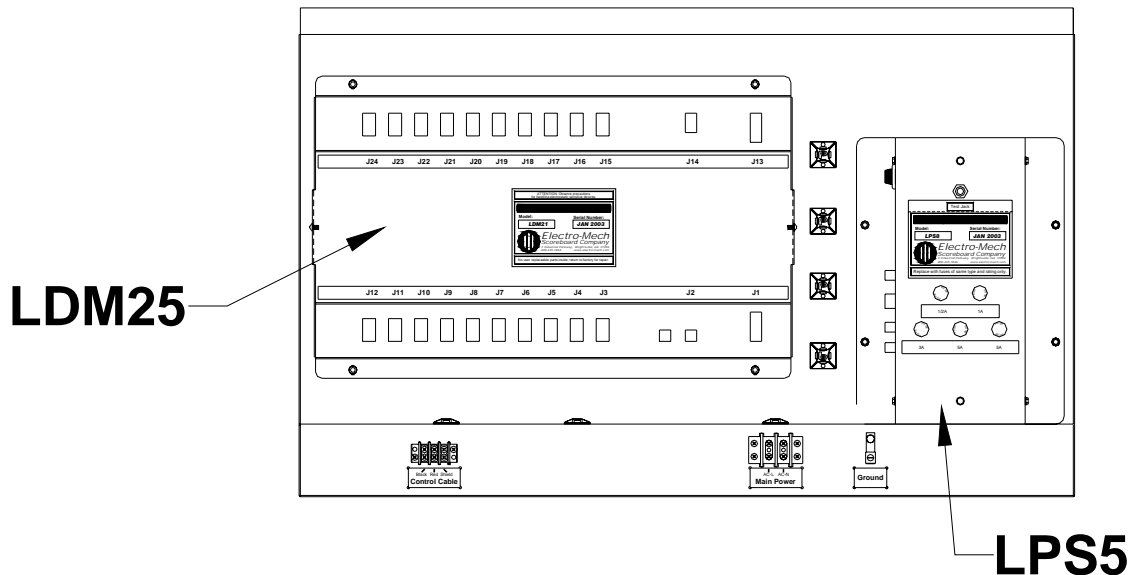

Figure 4 PERIOD Panel Removed
3. Remove the PERIOD panel from the front of the scoreboard. Figure 4 shows the view behind the PERIOD panel.